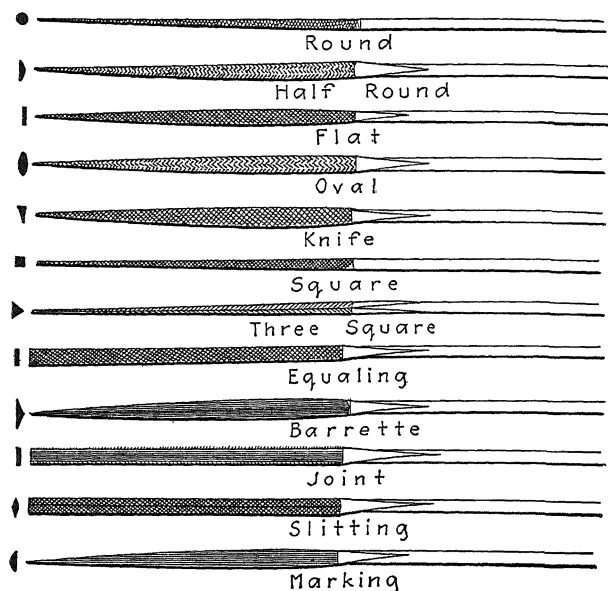

FIG. 234.—Needle-handle files.
**268. Needle-handle Files.**—The very smallest files are made in the form of "needle-handle files" (Fig. 234). They are much used in fine die work and are also very useful in delicate finishing touches in a variety of filing jobs. They are made in 4- to 6-in. lengths, only a third to a half of which is file shaped and cut, the remainder forming a slender handle.